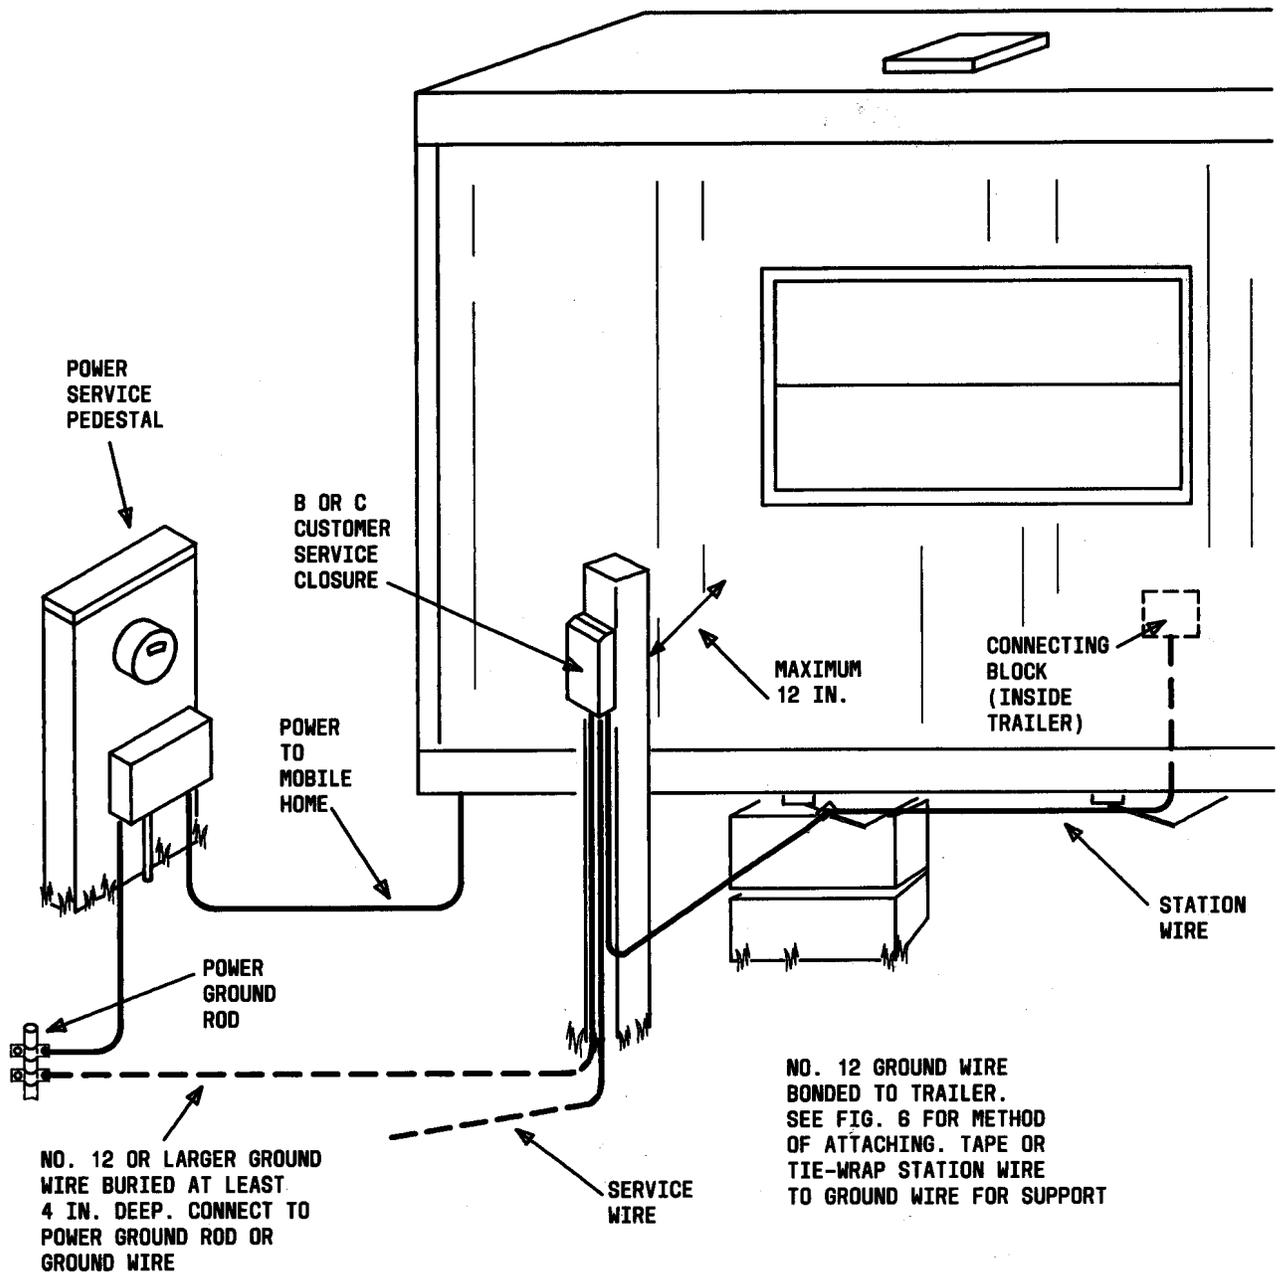

Fig. 3—Buried Service—Protector Located Within 12 Inches of Mobile Home—Protector Grounded to Power Ground
3.01 The protector should be located as near as possible to the mobile home, preferably within 12 inches but not more than 15 feet away (Fig. 3, 4, and 5). Do not attach to or mount anything on the outside surface (skin) of the mobile home as the skin may be easily damaged and cause interior damage to the mobile home if penetrated.
5.02 Where the protector is located within 12 inches of the mobile home, the bond wire may be run directly across the space between the mounting post and the mobile home (Fig. 3 and 4). However, where the protector is located more than 12 inches from the mobile home, the ground wire must be run down the post using approved fasteners and buried at least 4-inches deep between the bottom of the post and the mobile home (Fig. 5).